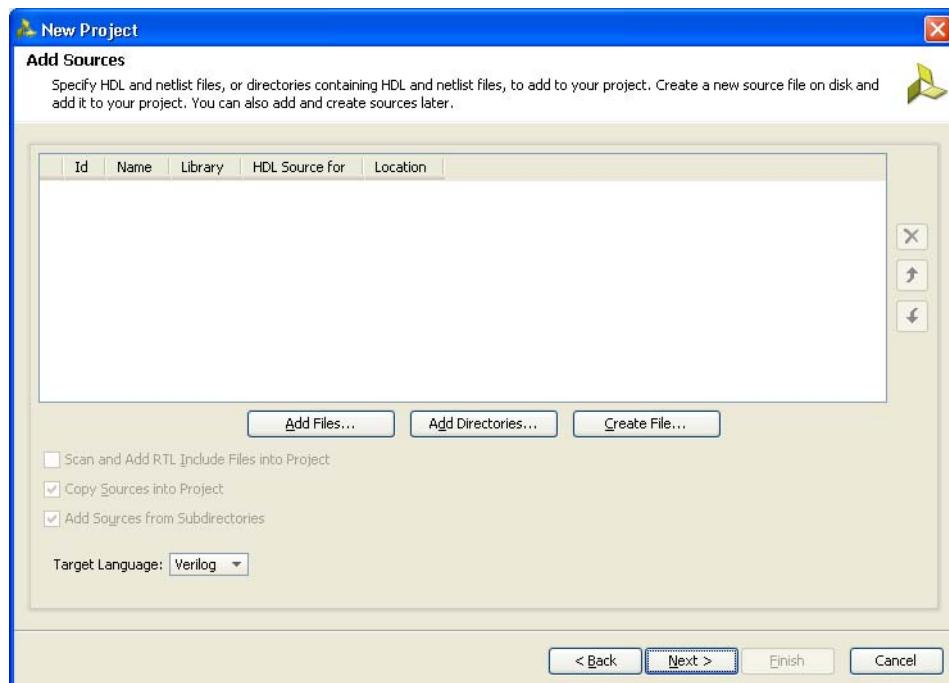

Figure 5-5: Add Sources
5. Click **Next** to proceed to the **Add Sources** page (Figure 5-5). RTL files can be added to the project in this page. If the project was not created earlier, proceed to the next page.